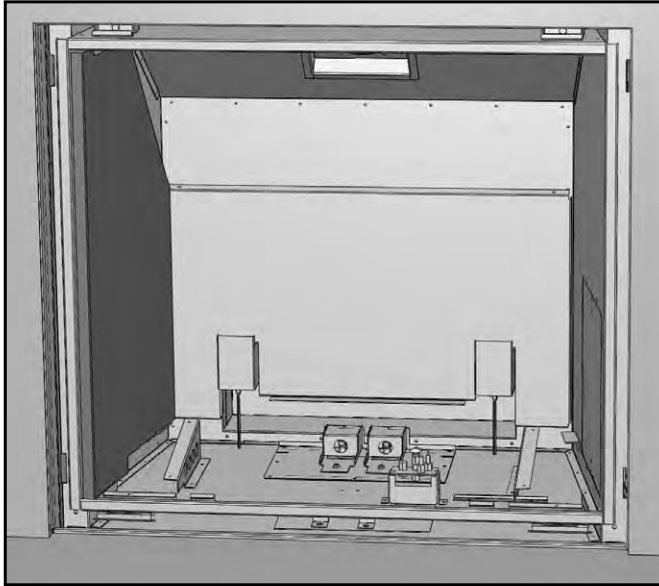

Figure 96: Rear & Left Porcelain Panels in Place.
3. Install the Rear Firebox Liner. This panel rests on top of the accent lights and Rear Brick Panel Support. It will stay in this location as you install the remaining panels. Refer to Figure 96.
4. Install the Left Firebox Liner Panel; it sits on the bottom front edge of the firebox (see Figure 96), a support bracket at the lower rear of the firebox, and is held in by a retainer at the top of the firebox. Adjust the panel retainers as required.